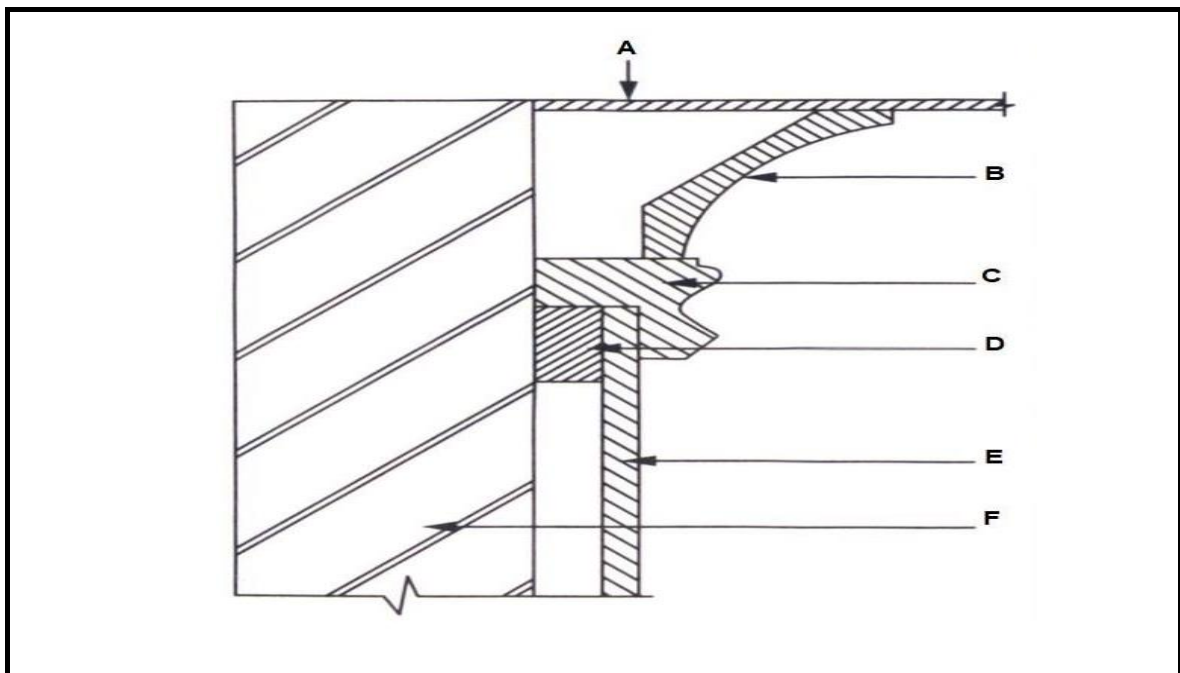

FIGURE 3.3
- 3.3 FIGURE 3.3 below shows the sectional view of a tongue and groove wall panel from the floor to the ceiling, fastened to a 110 mm thick wall. Study the drawing and answer the questions that follow.